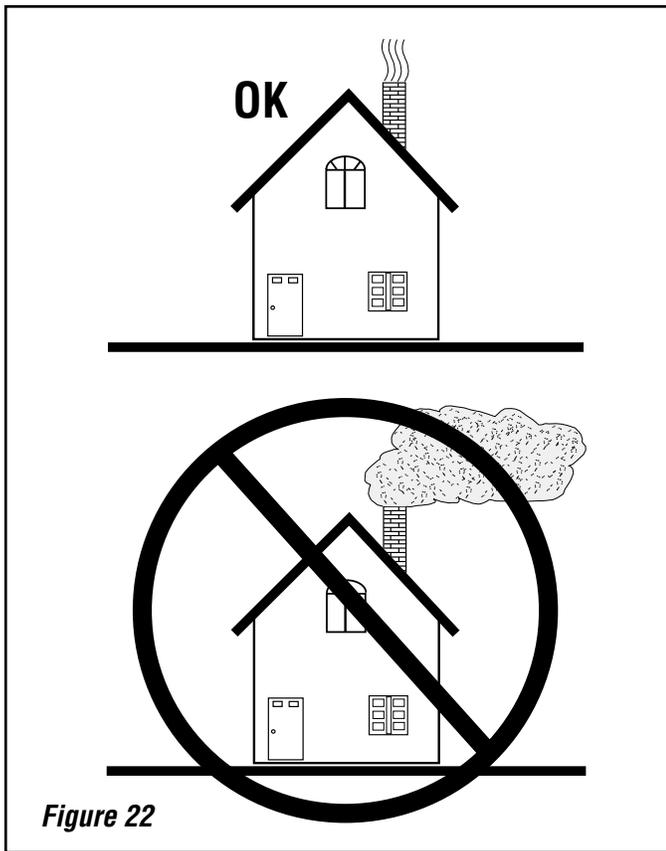

Figure 22
7. For best results, use smaller pieces of wood and light the fire from the top of the kindling pile to get the appliance temperature very high before loading larger wood for sustained burns. If necessary, crack the door to allow ignition of the fuel charge. Now you can add larger pieces of wood and after several minutes of high burn, set the left control for the desired heat output. Check the exhaust in about 15 to 20 minutes (*see Figure 22*). Large amounts of smoke indicate an improper burn setting (either too high or too low). Adjust and recheck in 5 to 10 minutes.
6. Go outside and check your chimney. More than a very small amount of smoke indicates wasted heat, creosote build up and pollution (*see Figure 22*).